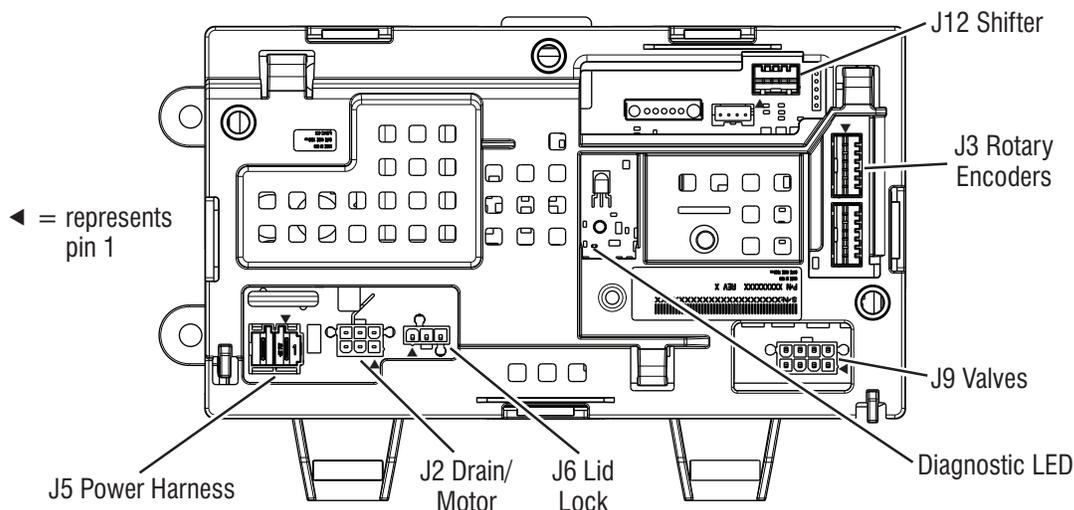

Figure 1
2. Access the main control and visually check that ALL connectors are inserted all the way into their respective headers. See Figure 1.